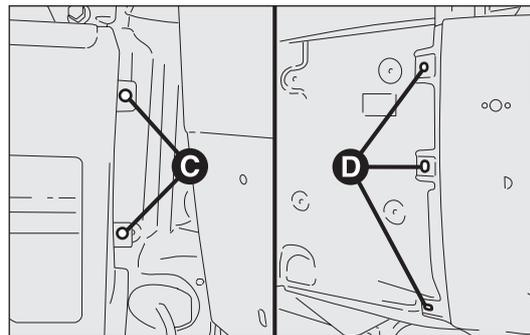

fig. 194
- ❑ unscrew both fastenings C-fig. 194 on the side of the accessible rear swing door and open the door slightly;
- ❑ unscrew the three side fastenings D on the panel side, accessible after removing the side mounting fig. 194. To remove the moulding, undo the three lower self-tapping screws and undo the pins with care to avoid breaking them. If you break one or more pins, they will have to be replaced;